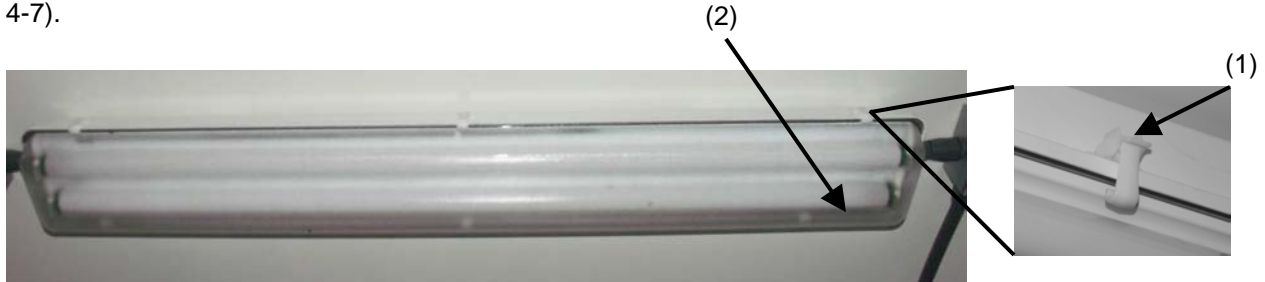

Figure 4-7. Ceiling light and white retaining clip.
Unsnap white plastic retaining clips (1) that support lens in fixture. Remove lens (2) from light fixture (Fig. 4-7).